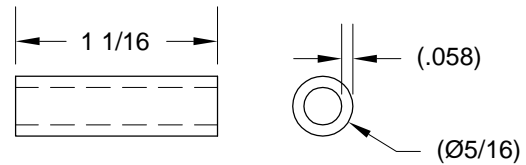

FIGURE 1: MAKING THE BATTERY SPACER
Step 1: Make two F-1201D Battery Spacers from .058X5/16 6061-T6 tube per the dimensions in Figure 1.